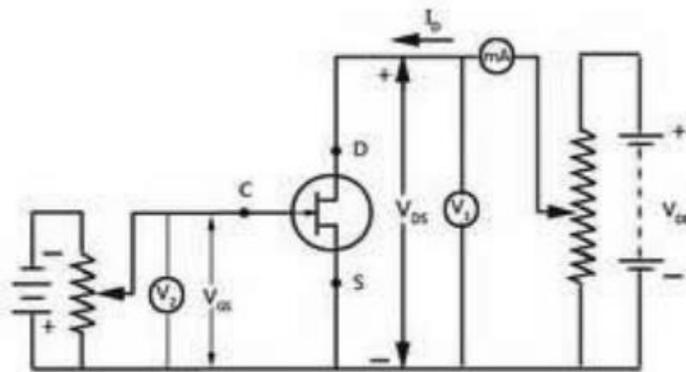

Figure 19.2: Circuit diagram of common source JFET
1. Connect the circuit as shown in figure 19.2